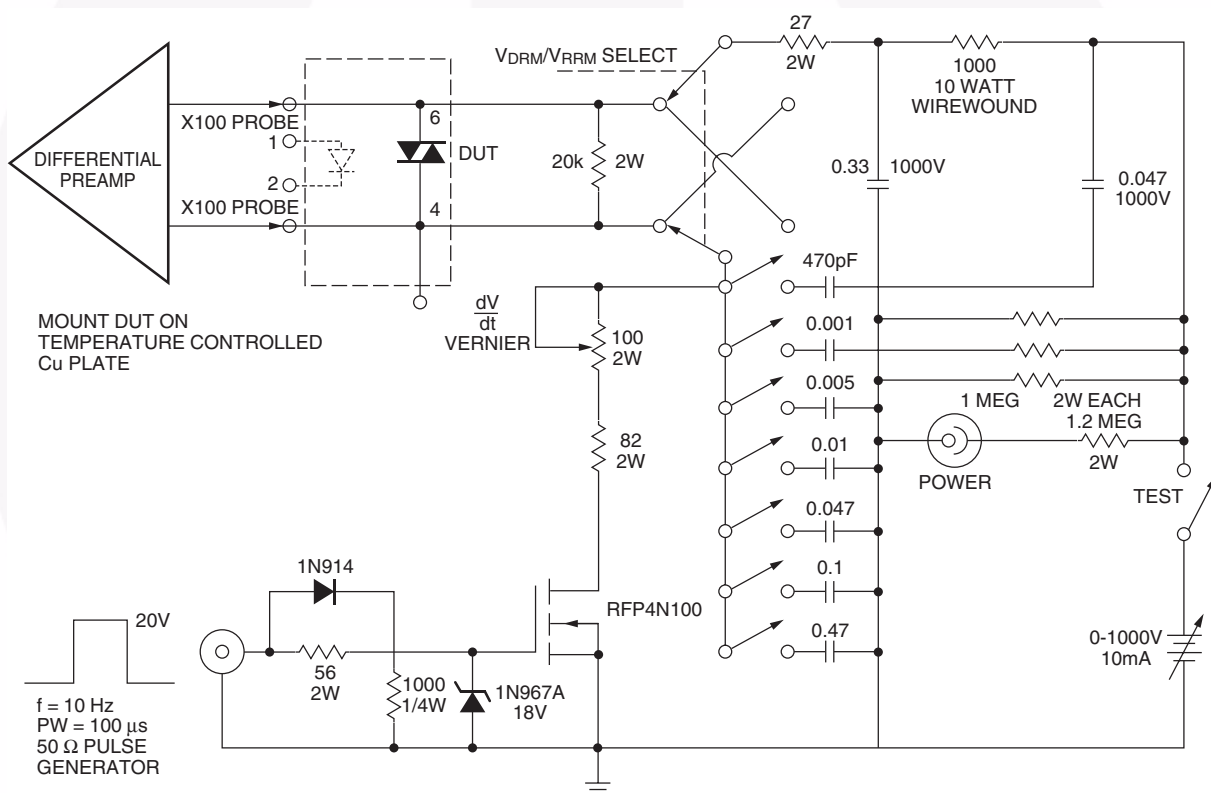

Figure 11. Circuit for Static $\frac{dV}{dt}$ Measurement of Power Thyristors
4. This is static dv/dt . See Figure 11 for test circuit. Commutating dv/dt is a function of the load-driving thyristor(s) only.